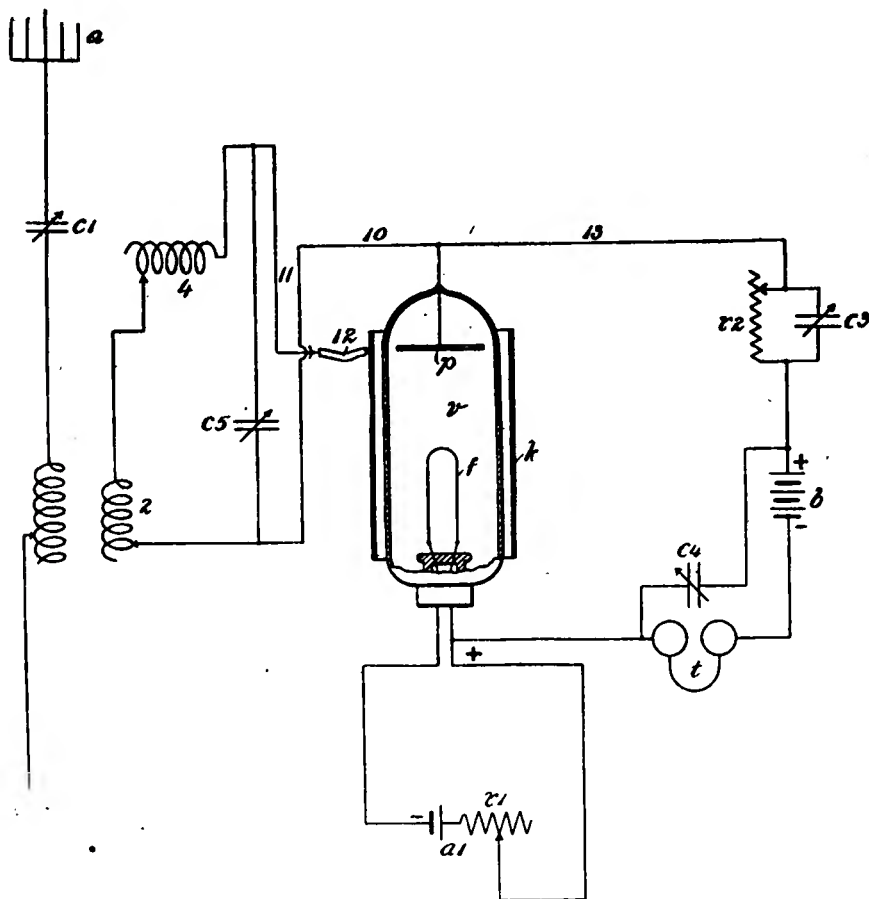

Figure 5—Valve receiver circuit for reception of damped and undamped oscillations
**R**OY A. WEAGANT, chief engineer of the American Marconi Company, is credited with the novel system for the reception of damped and undamped oscillations shown in the accompanying diagram, figure 5, in which the antenna circuit and the receiving apparatus are represented by the usual elements. The secondary system comprises the condenser C-5, a loading coil 4, and the secondary